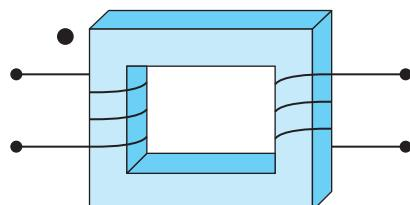

FIGURE P12.30 Magnetic circuit with a dot.
- 12.30 (A)** If a dot is placed on the primary coil as shown in Figure P12.30, where on the secondary coil should the corresponding dot be placed?